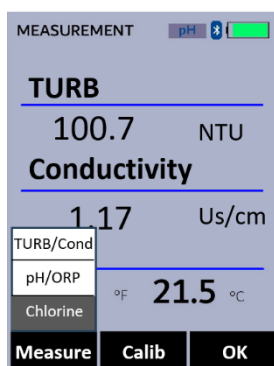

Figure 8 – Select Chlorine Test
2. Press **Measure** () as needed to highlight **Chlorine** in the selection menu (Figure 8).